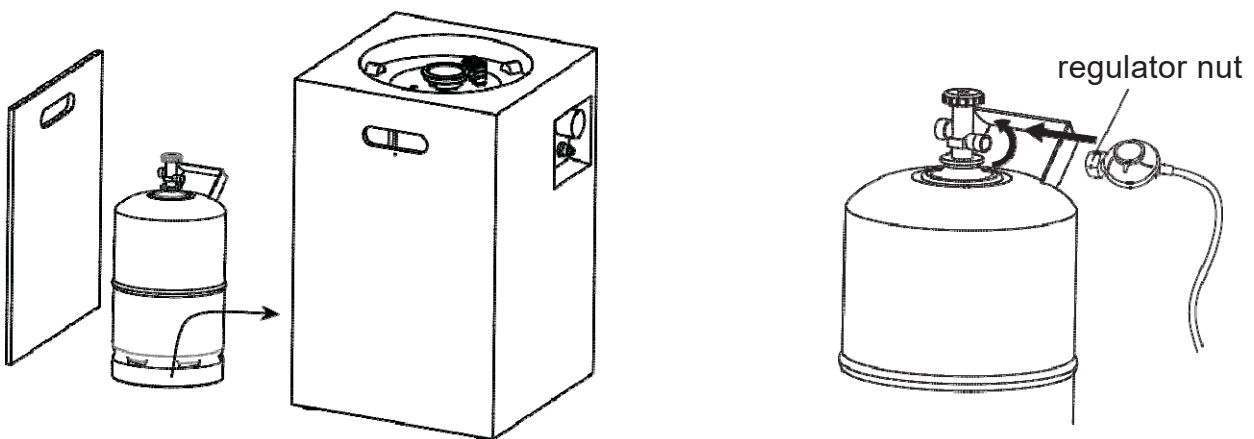

Figure 2
5. Place the gas cylinder onto gas cylinder support, then screw the regulator nut clockwise tightly (see Figure 2).